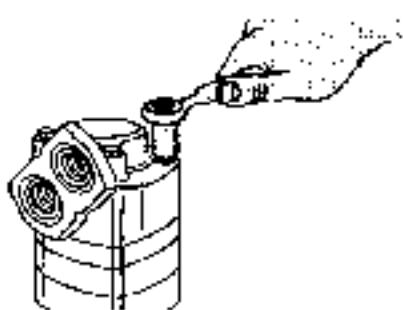

Fig. 2.3.6b
2. Remove the four bolts from the motor valve housing (fig. 2.3.6b). On reassembly torque the mounting bolts to 62.5 ft. lbs. (84.7 N.M.). Follow the torque procedure outlined in section 2.3.9.